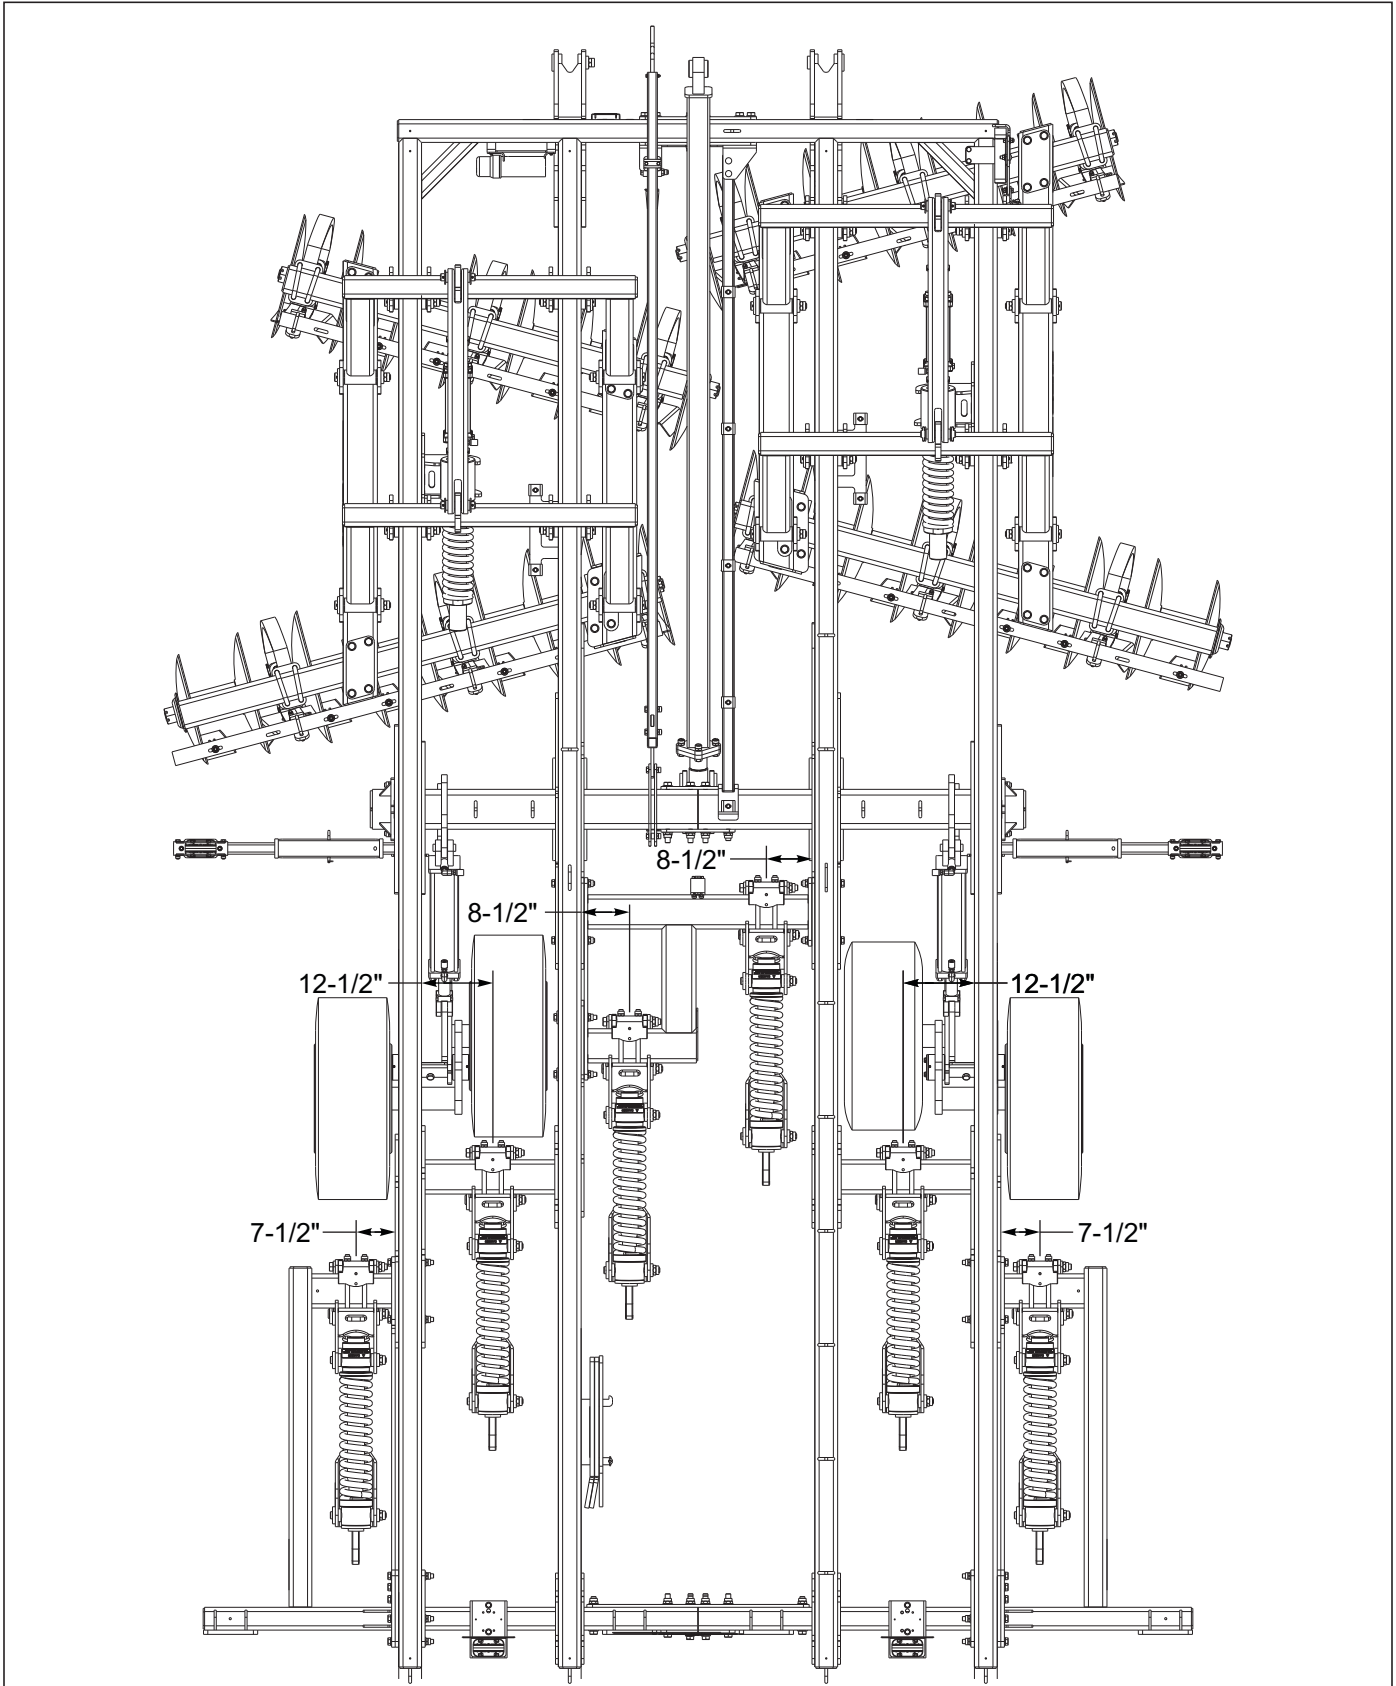
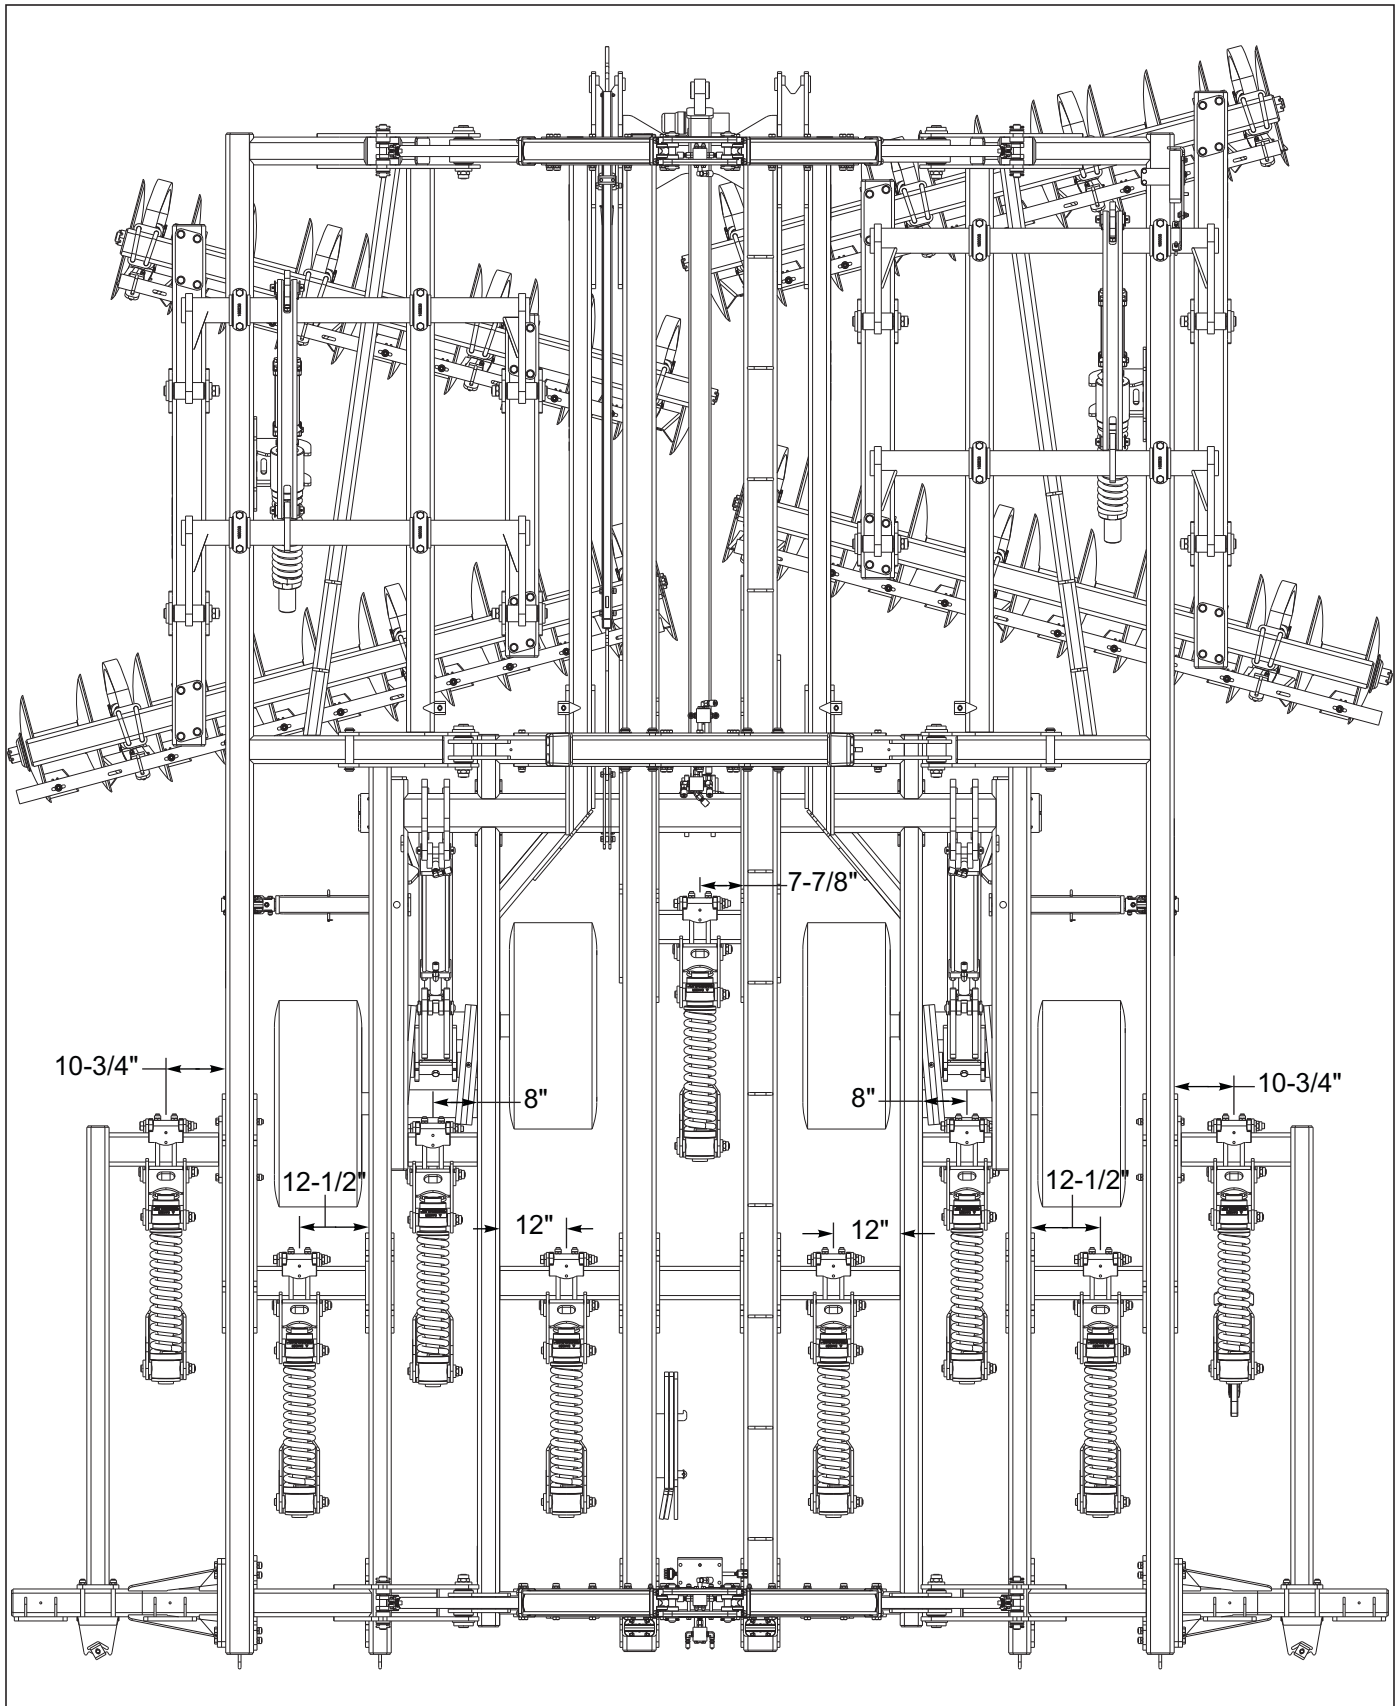

Figure 2-2: Shank Placement Assembly 2410-06
Figure 2-4: Shank Placement Assembly 2410-09
10. Remove any shank assemblies that have been turned around or mounted inside the frame for shipping, and reposition, *See Figures 2-2 through See Figures 2-4* for shank placement.
2. Remove any shank assemblies that have been turned around or mounted inside the frame for shipping, and reposition, *See Figures 2-2 through See Figures 2-4* for shank placement.